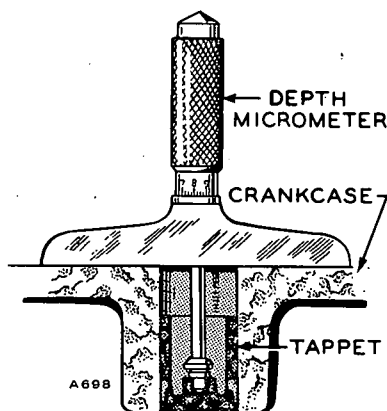

FIG. 6-11
1. Install pump tappet in its recess and position flywheel on the port closing mark (PC) of the compression stroke.
2. Using a depth micrometer, measure the distance from the pump mounting pad on the crankcase to the tappet center (Fig. 6-11).